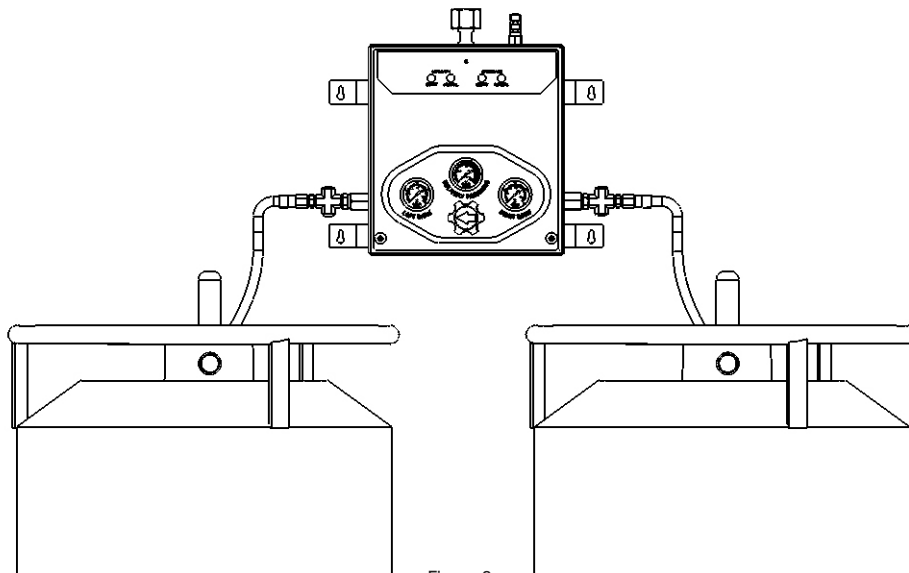
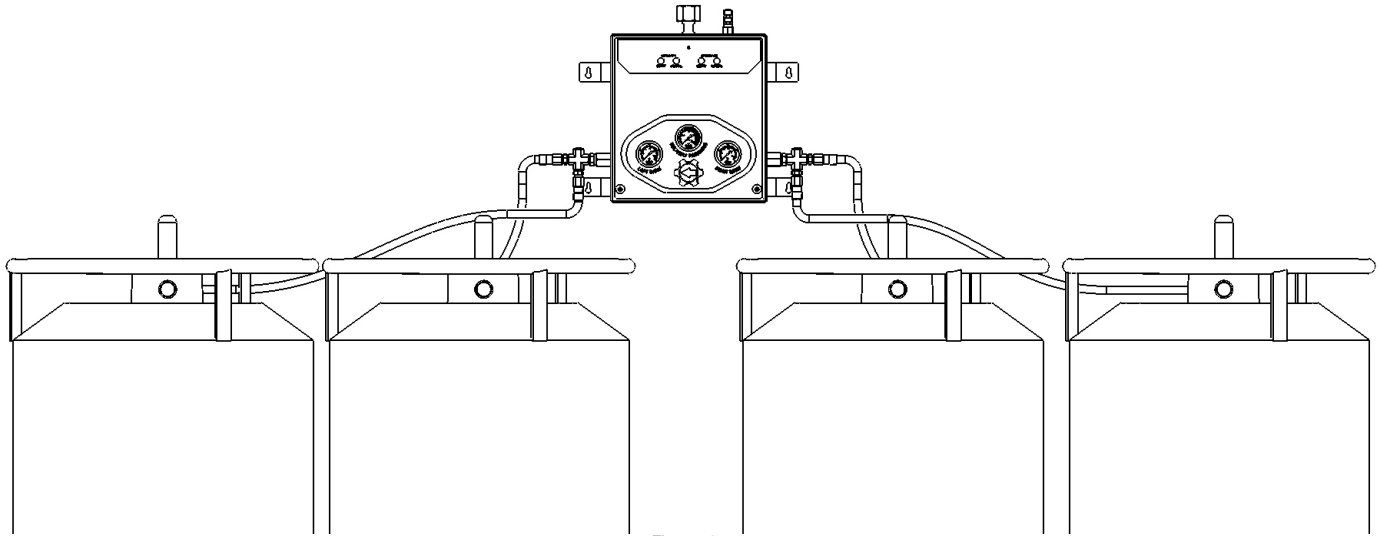

Figure 3
Figure 4
7. If the system only has one cylinder on each side, then assemble the cylinders and hoses to the multi-port adapter as shown in Figure 3. If the system has multiple cylinders on each side, then assemble the cylinder and hoses as shown in Figure 4.